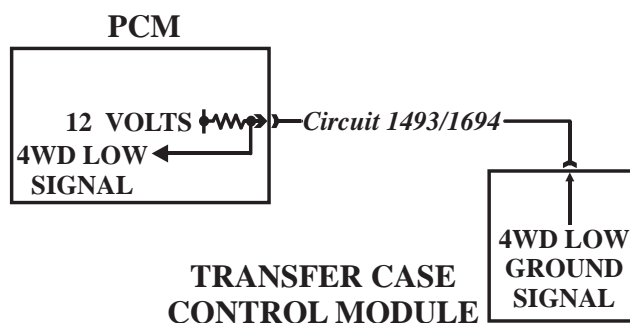

Figure 64
- When the 4WD LO range switch on the dash is pushed, it is the Transfer Case Control Module that grounds Circuit 1493/1694. If battery volts are present and that parameter on the scan tool data list changes state, it is the TCCM that is faulty. This is a common failure as well as corrosion on "T" trucks that have the TCCM located behind the passenger kick panel. It is the HVAC system that dumps condensate on the TCCM connectors, (Refer to Figure 64).